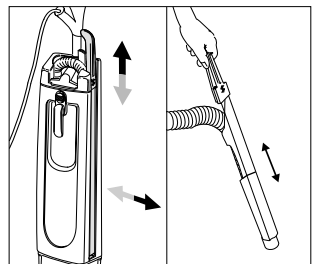

Figure 5
3.4 Working with the hand pipe <Figure 5>